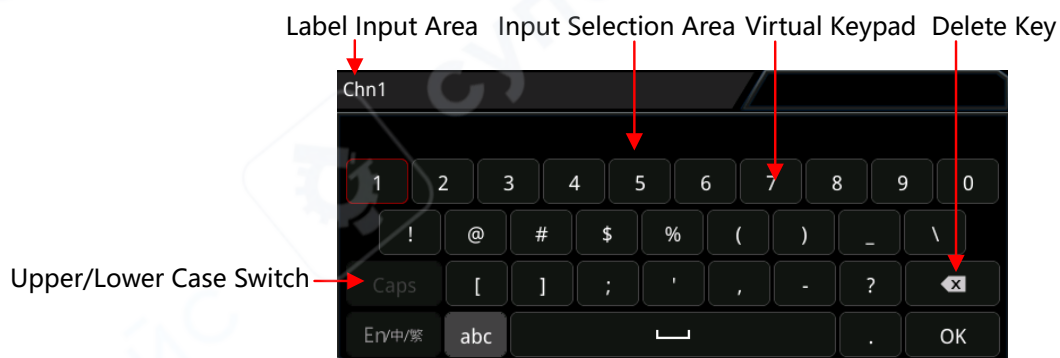

Figure 5.3 Label Editing Interface
- Press **Label**, and the label editing interface is automatically displayed, as shown in Figure 5.3. You can input the label manually. For details, refer to descriptions in "To Create a Folder".